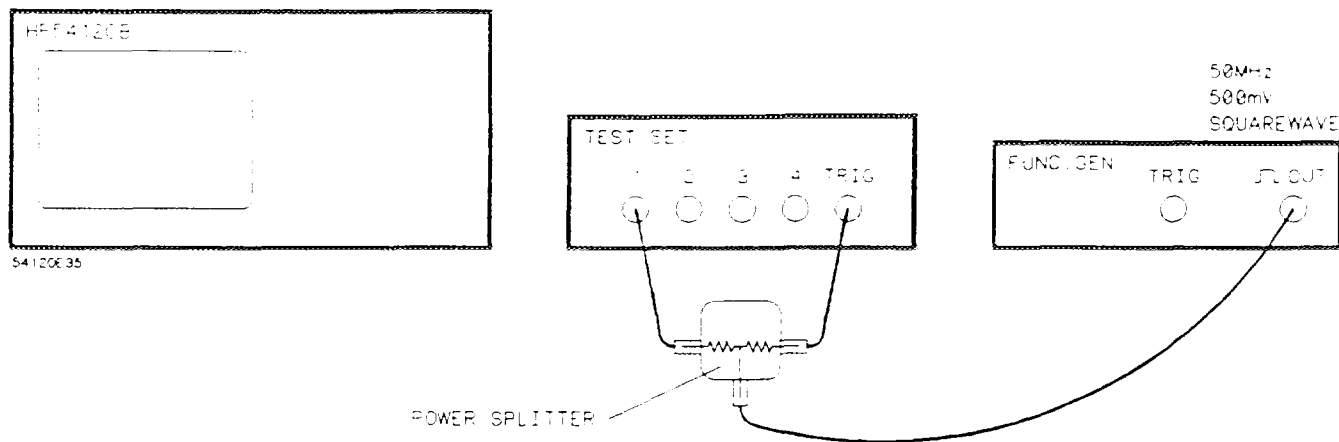

Figure 11-3. Equipment Configuration
- Connect the output of the function generator to channel 1 and trigger inputs of the HP 54121A test set with the power splitter. See Figure 11-3 on the next page. For demonstration purposes, a power splitter is not required if your pulse generator has a separate trigger output to connect to the HP 54121T's trigger input.